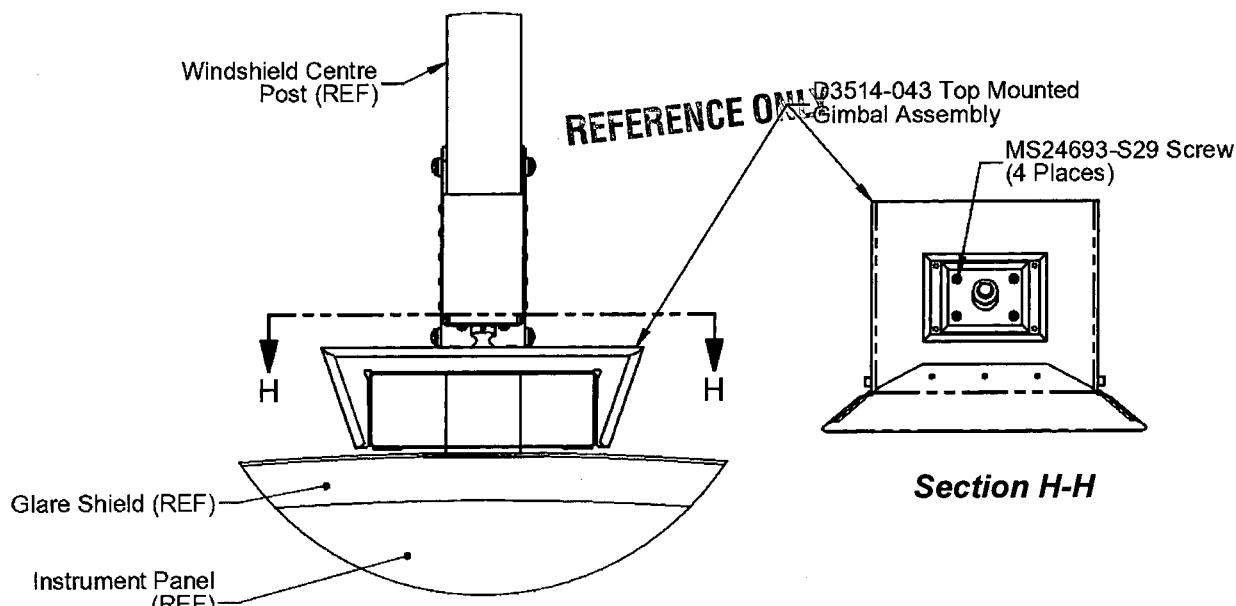

Figure 3.3.4 – Loosen Screws to Adjust Position of Receiver Housing (View D-D from Figure 1.2)
Note: The Gimbal Mount can be secured in the desired orientation by tightening the qty(4) MS24693-S29 screws found on the D3514-043 Top Mounted Gimbal Assembly as shown in *Figure 3.3.4*